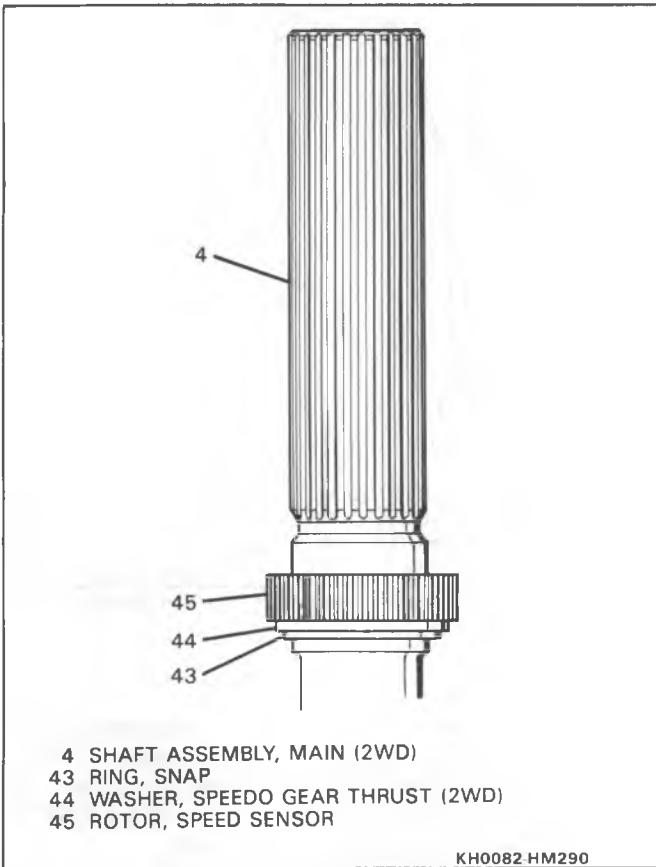

Figure 75 2WD Speed Sensor Rotor Install
12. Snap-ring (43) and speedo gear thrust (2WD) washer (44) (Figure 75).